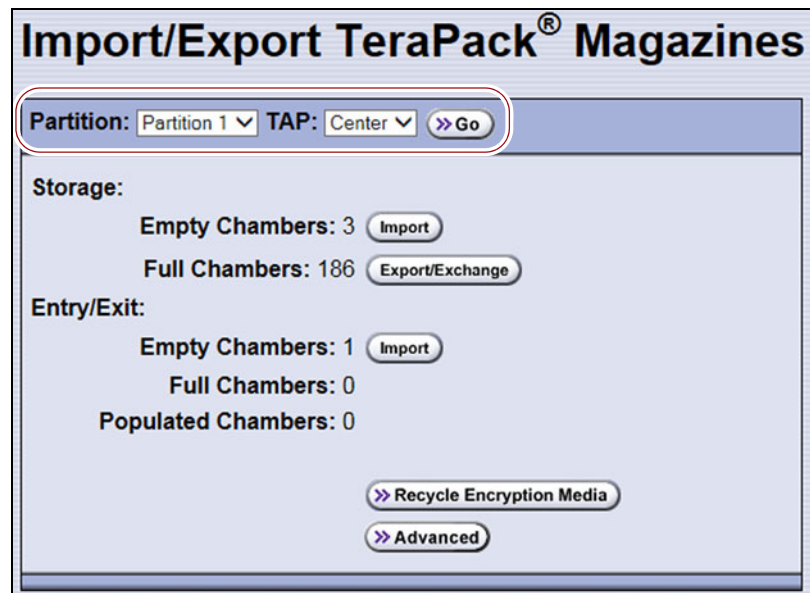

Figure 147 Select the partition and the TAP (storage partition shown).
- If you plan to import cartridges directly into the partition's storage pool, make sure that the storage pool has an empty chamber for each magazine you plan to import. The partition's Import/Export TeraPack Magazines screen shows the number of empty chambers available in the partition's storage pool (see Figure 147 on page 237). If there are no empty chambers available in the storage pool, export one or more magazines from the storage pool (see Export Magazines from a Partition on page 245).